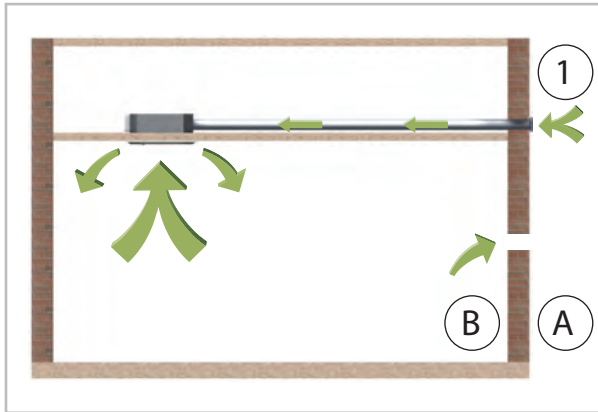

Fig. 29: Fresh air connection
- Fit a collar with a nominal diameter of 65 mm to the fresh air connection (Fig. 29).